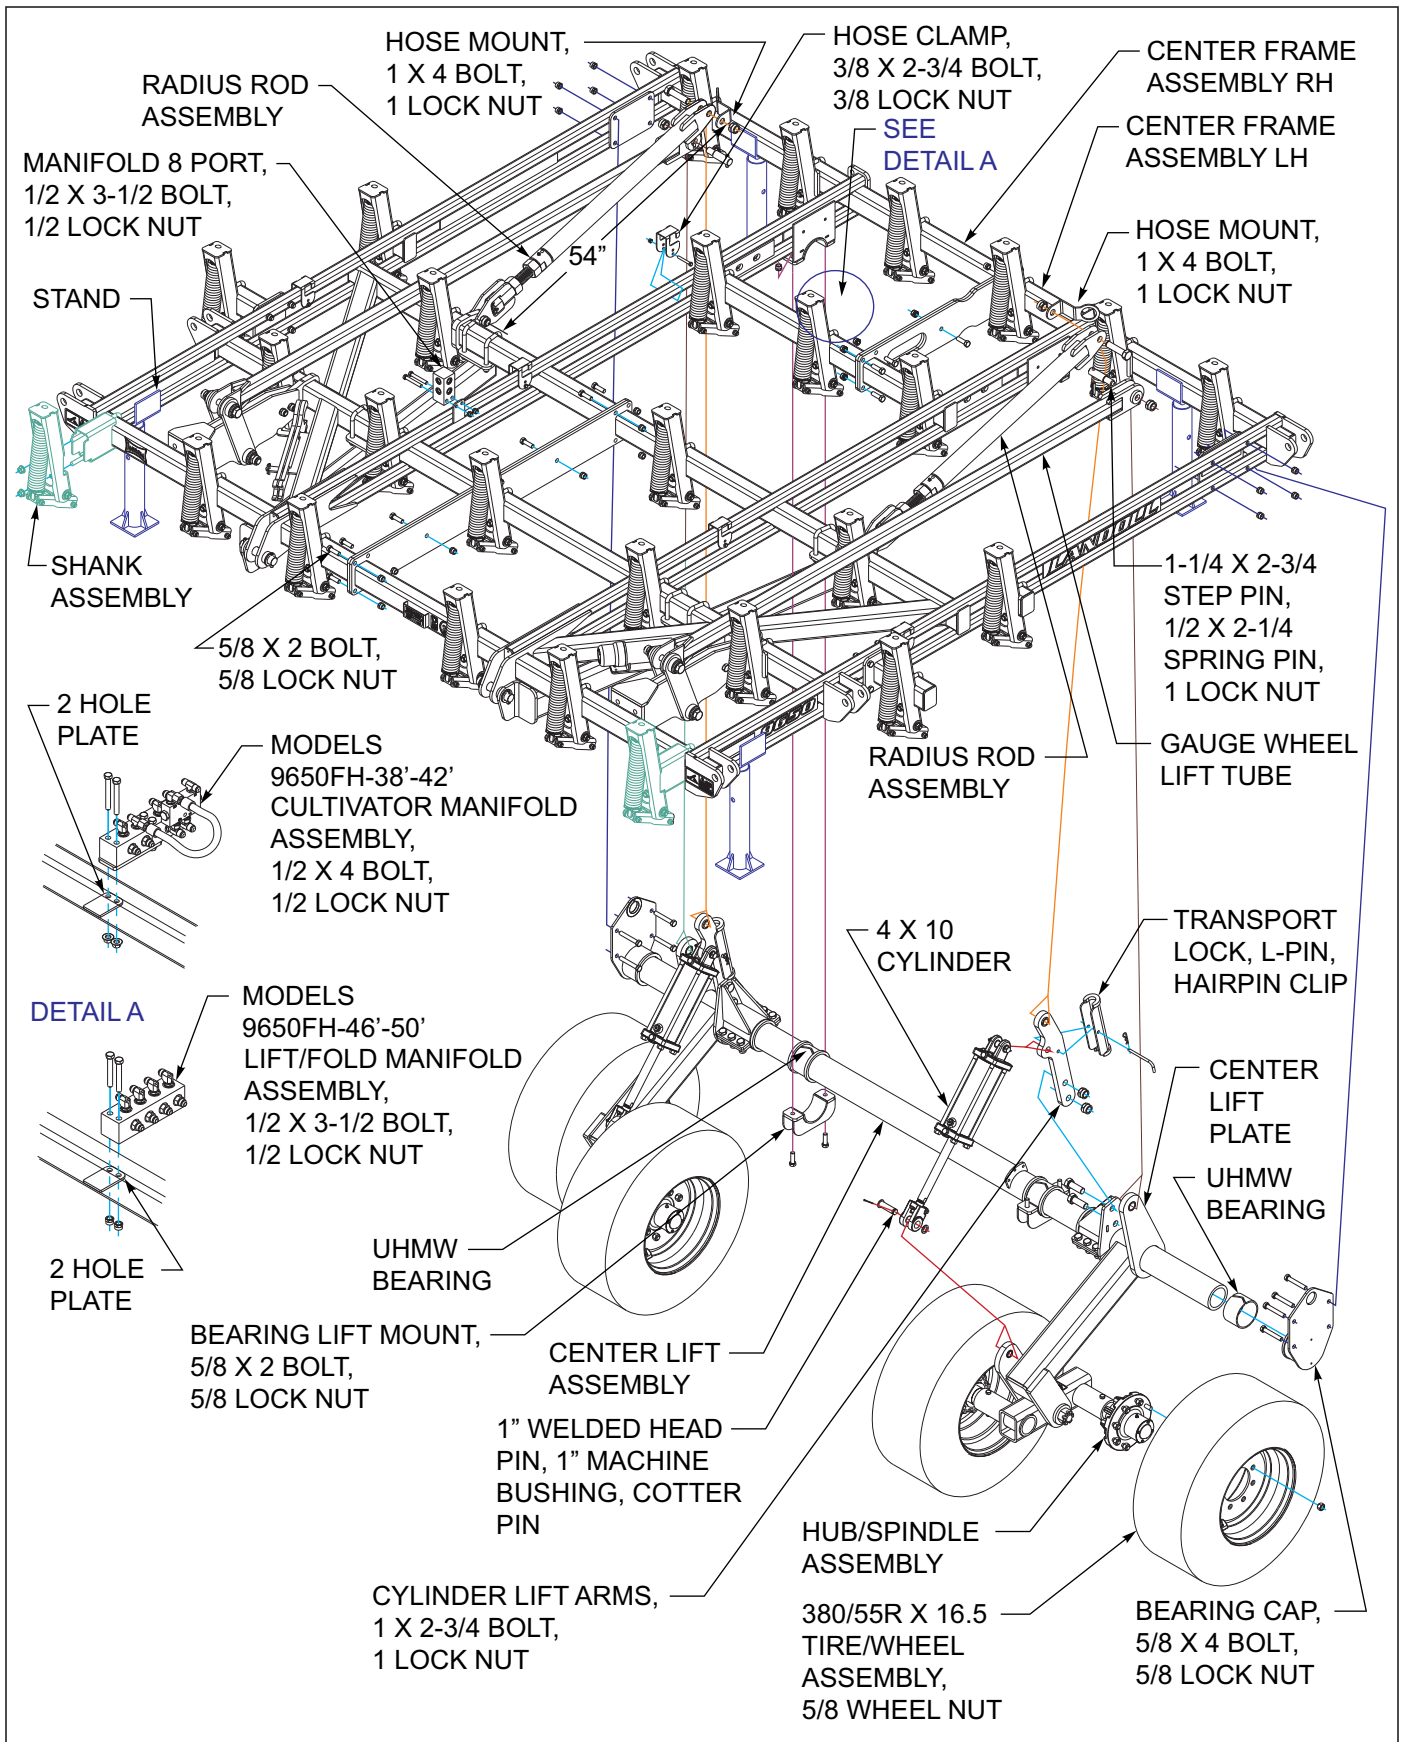
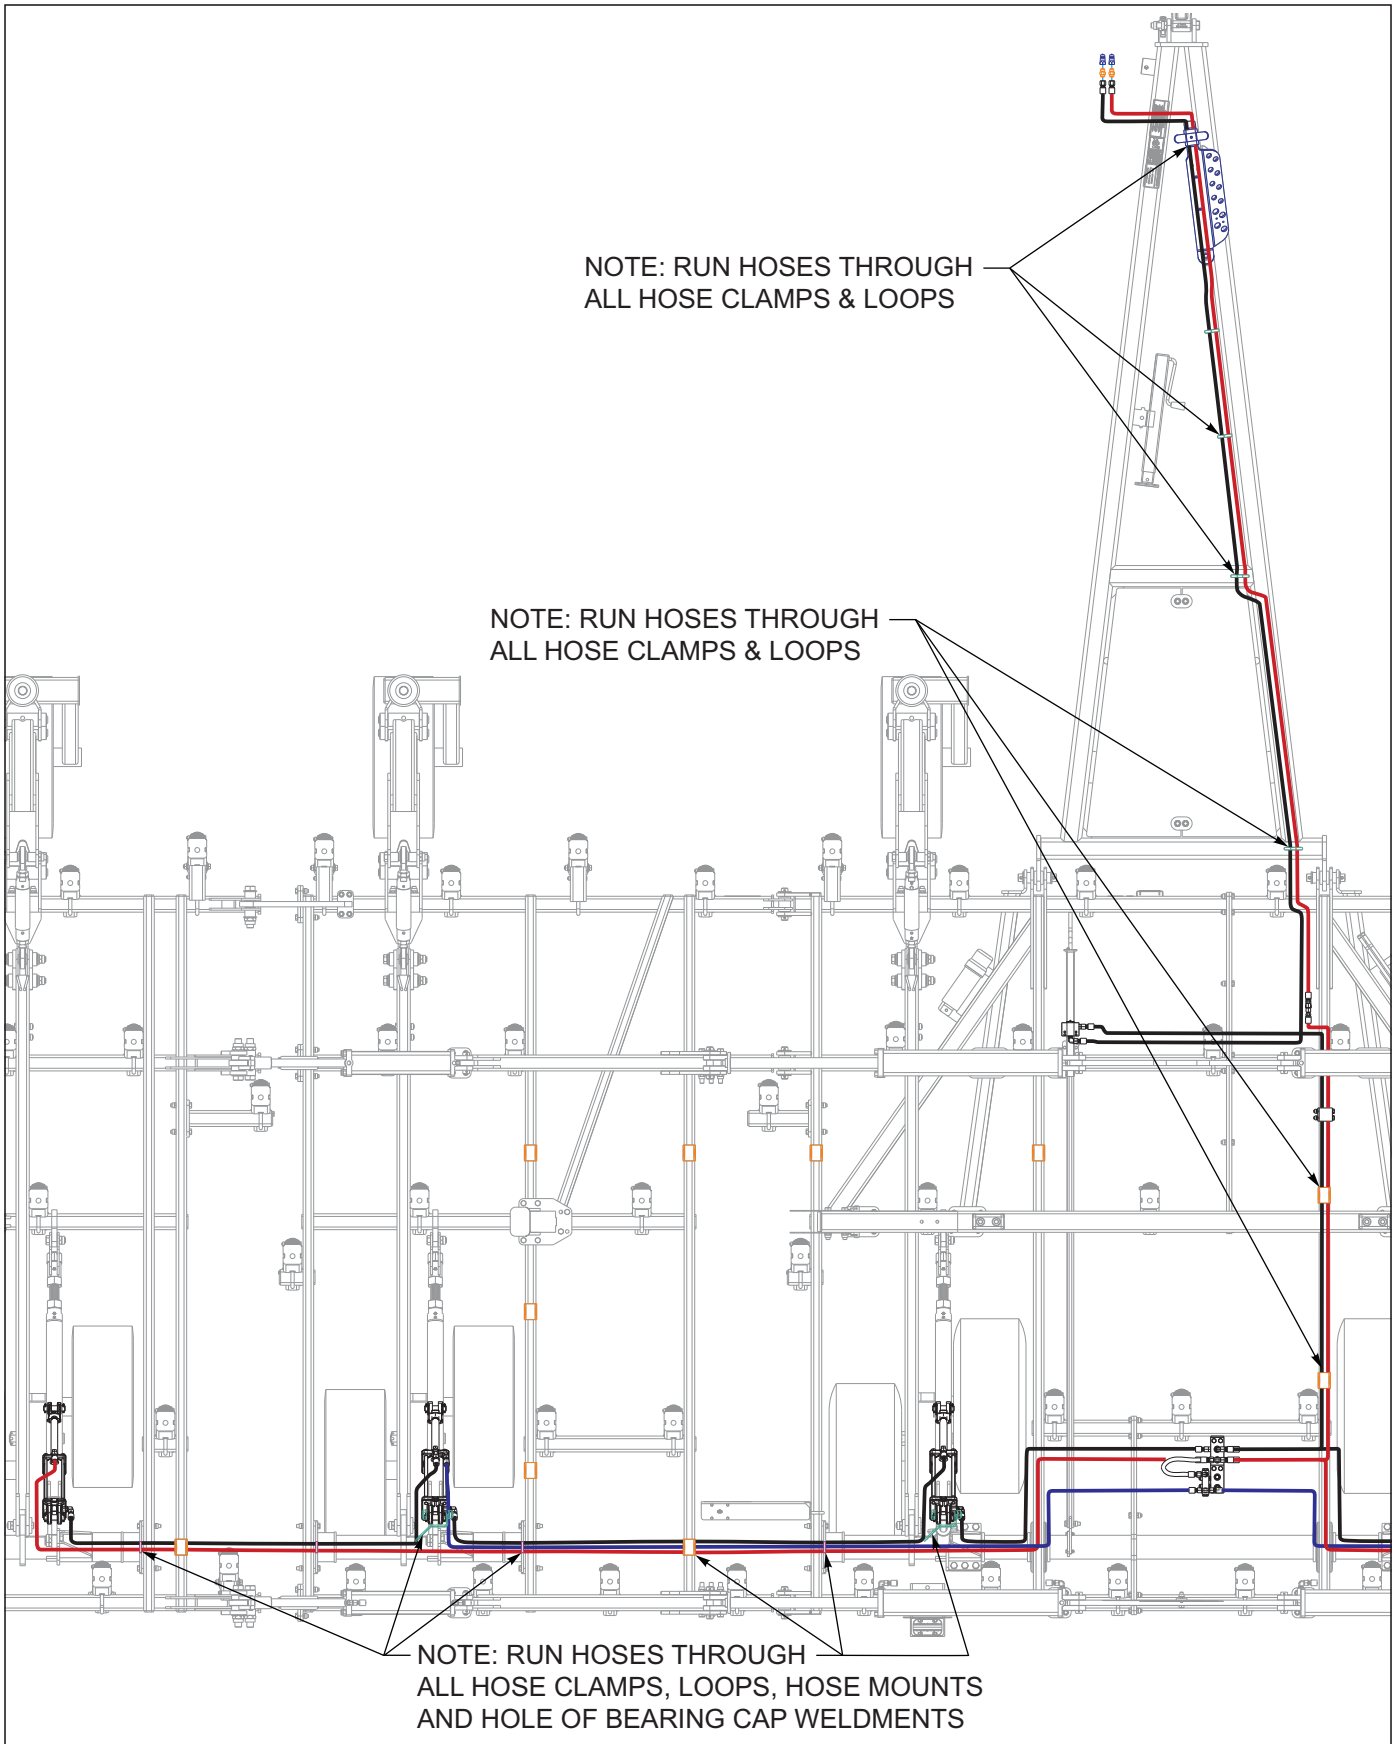
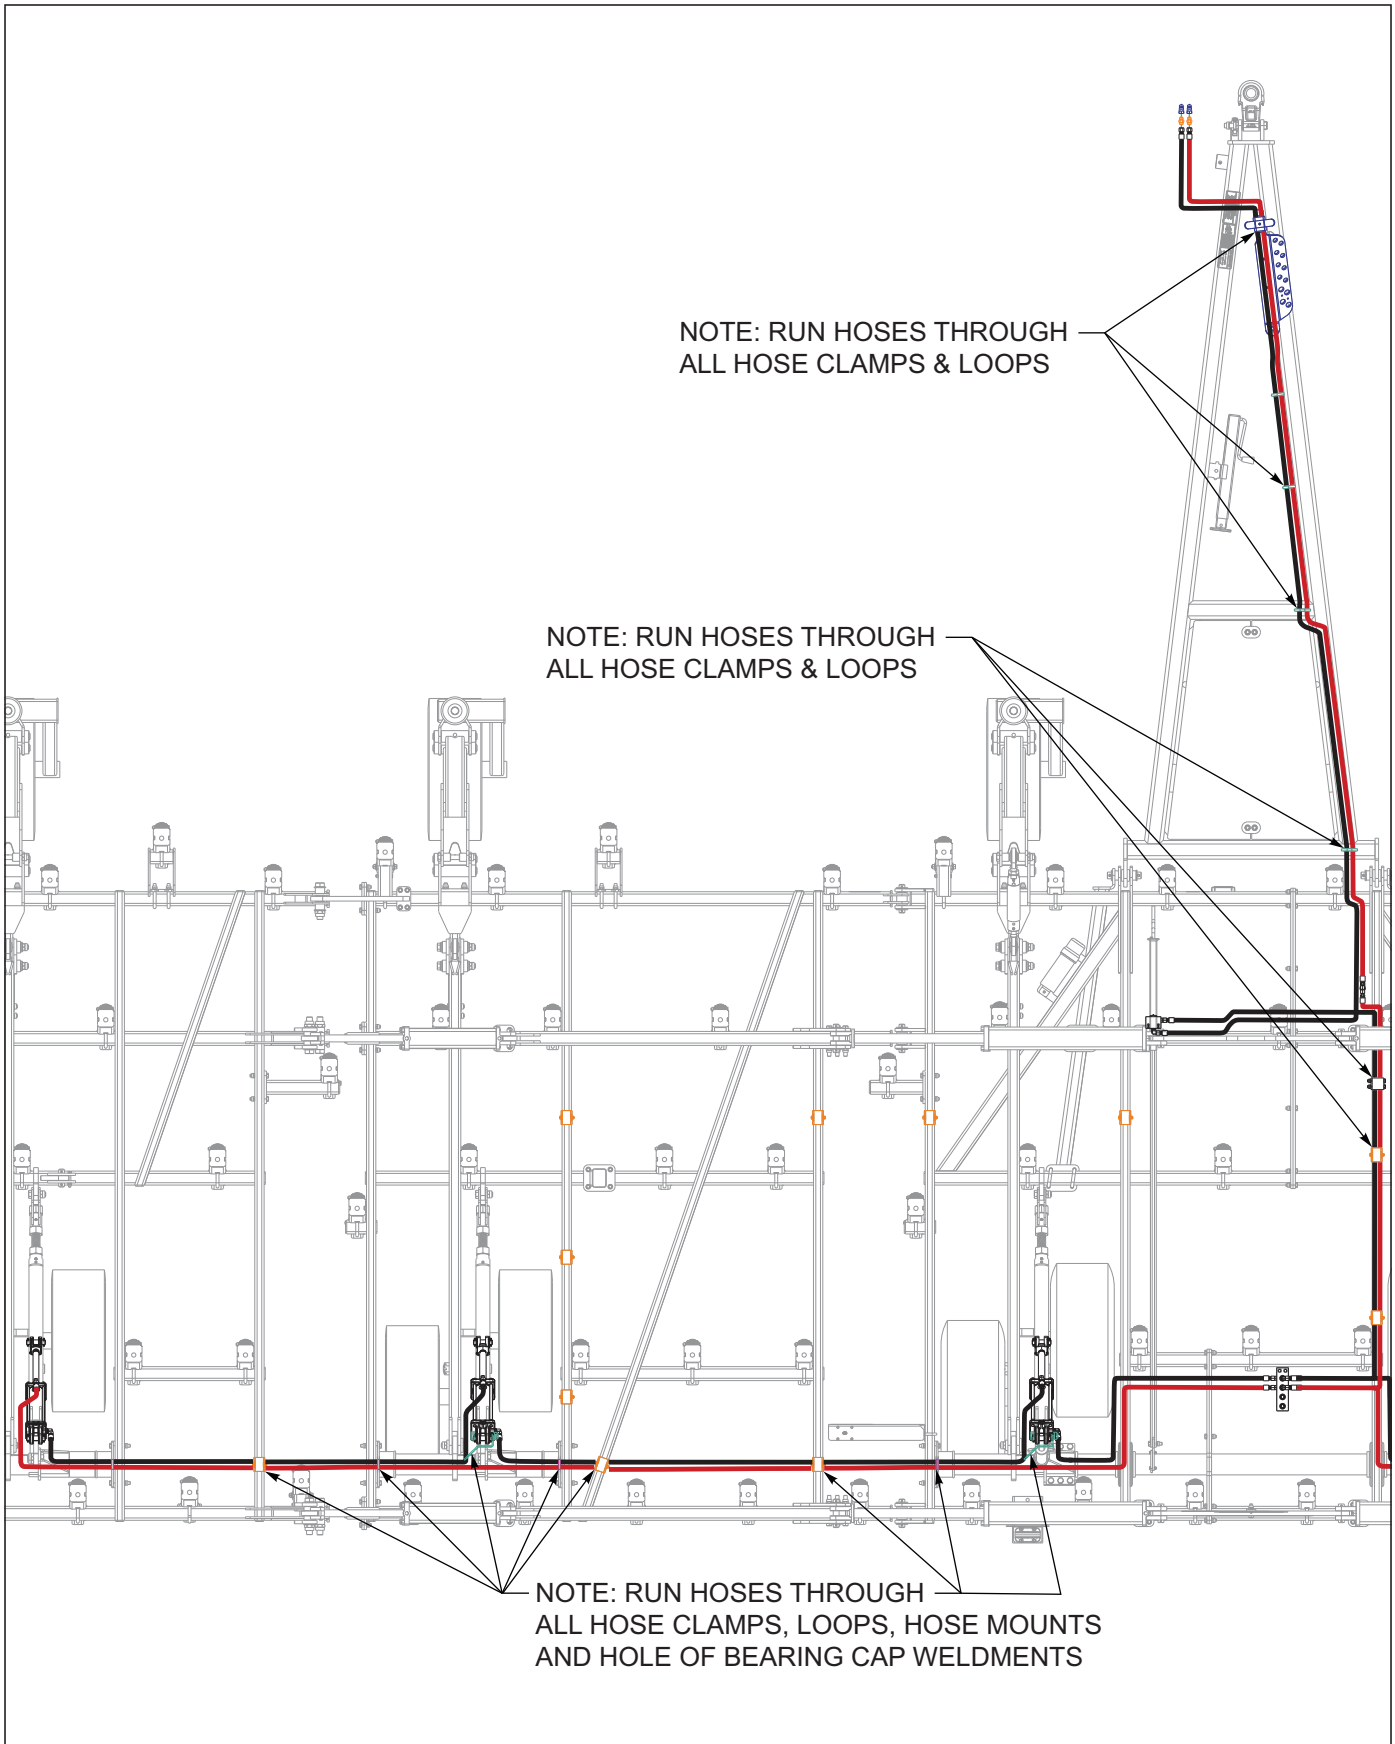

Figure 3-1: Center Frame Assembly
Figure 3-12: Hydraulic Lift Layout 9650FH-38' - 42' LH
Figure 3-18: Hydraulic Lift Layout 9650FH-46' - 50' LH
1. Bolt the two center frame halves together using 5/8 x 2 bolts and locknuts See Figure 3-1.
14. Install the 8 port manifold to 2 hole plate toward front of center frame assembly RH with 1/2 x 3-1/2 bolts and 1/2 lock nuts See Figure 3-1.
15. Install the cultivator manifold assembly on 2 hole plate on rear of center frame tube using 1/2 x 4 bolt and 1/2 lock nut, models 9650-38'-42' See Figure 3-1.
16. Install the lift/fold manifold assembly on 2 hole plate on rear of center frame tube using 1/2 x 3-1/2 bolt and 1/2 lock nut, models 9650-46'-50' See Figure 3-1.
2 hose mounts used on center frame and 1 hose mount on each inner wing See Figure 3-1, See Figure 3-12, See Figure 3-18 for placement and orientation.